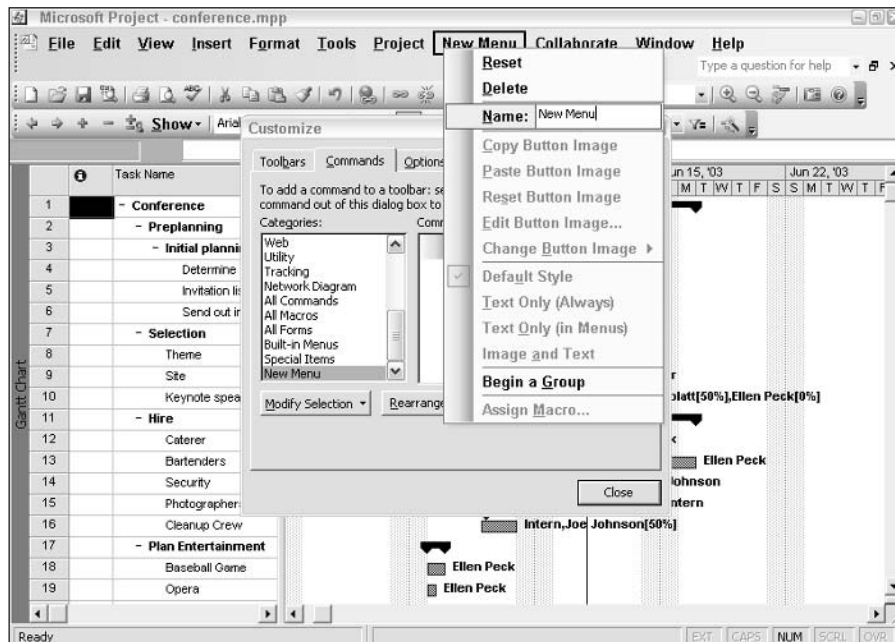

Figure 23-30: The menu name should help you remember the commands that the menu contains.
6. Select the New Menu, and then click the Modify Selection button. From the new pop-up menu, as shown in Figure 23-30, highlight New Menu and type a specific menu name. Then click outside the Modify Selection menu to close it.